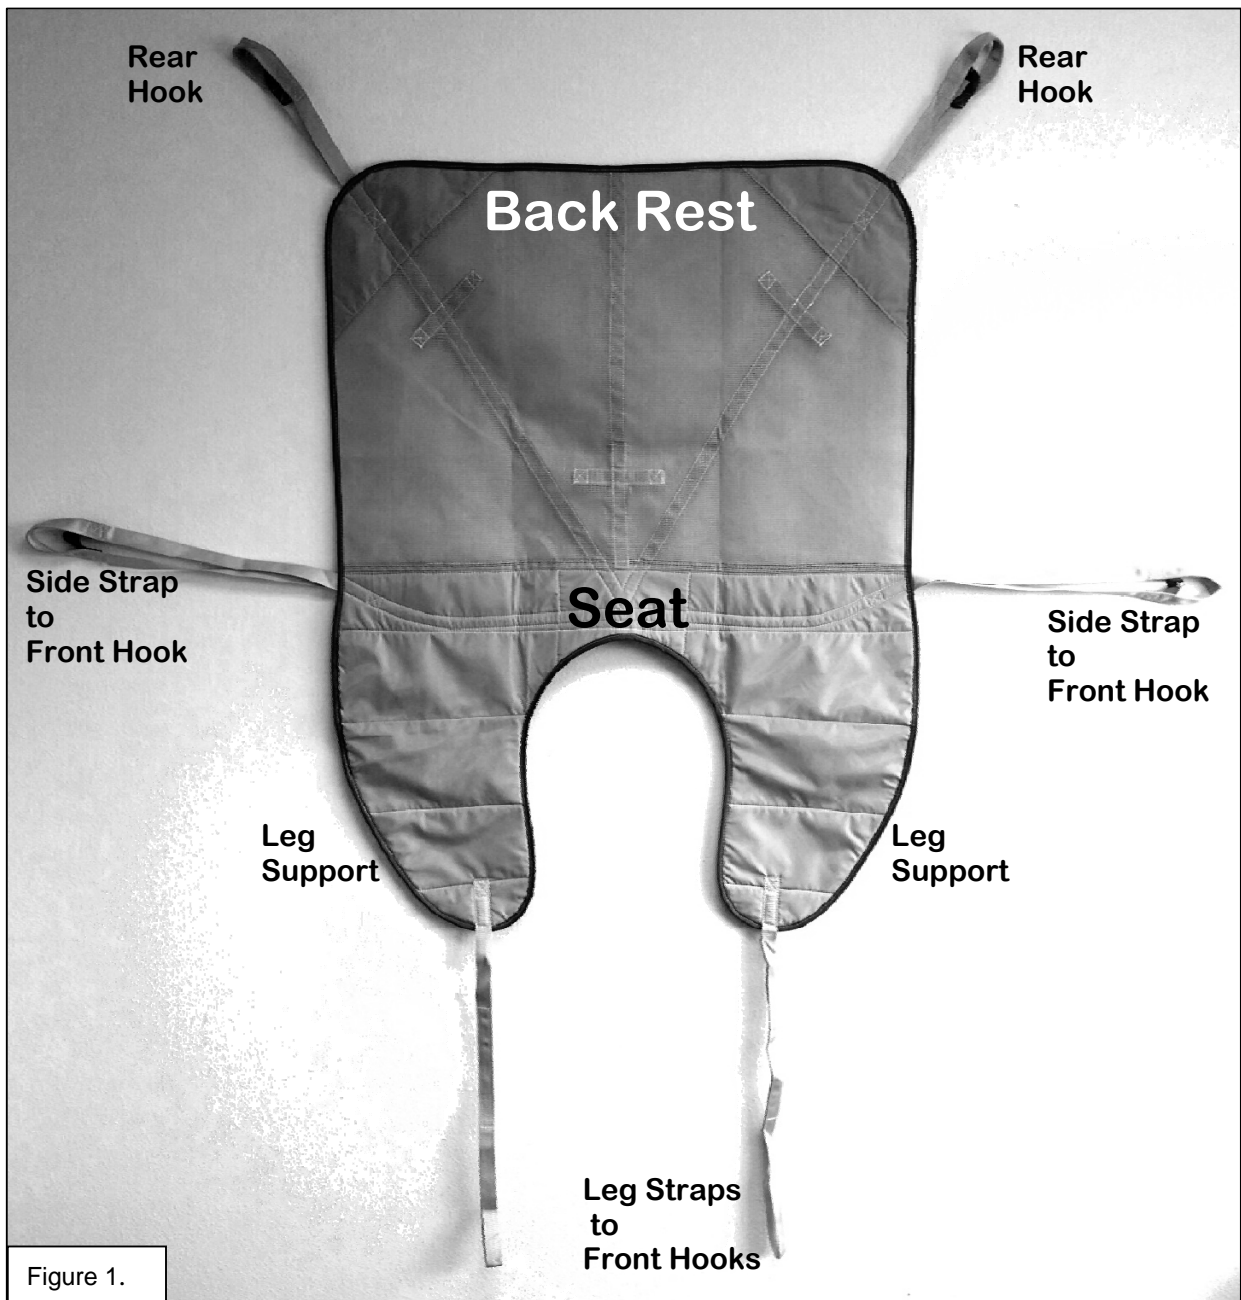

Figure 1.
1. Slide the sling behind the users back and under hips and legs so that the “Seat” portion is under the users hips. **See figure 1.**
3. Attach the back rest straps labeled Rear Hook, (in figure 1) to the lift sling hooks facing behind the user. Attach the strap above the blue marker shown in **Figure 4.**